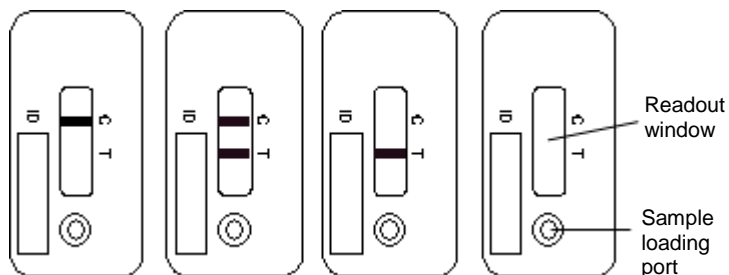

Figure 1A Figure 1B Figure 1C Figure 1D
- For a valid test result, the Control Line (C) must be visible in all cases (see figure 1A and figure 1B). It is used as a functional test control only and cannot be used for the interpretation of the Test Line (T). If the Test Line (T) is not detectable after 15 minutes of incubation time (figure 1A), the concentration of adalimumab present in the serum sample is below the detection limit. If a Test Line (T) is detectable after 15 minutes of incubation time (figure 1B), the concentration present in the serum sample is calculated by the Quantum Blue® Reader.